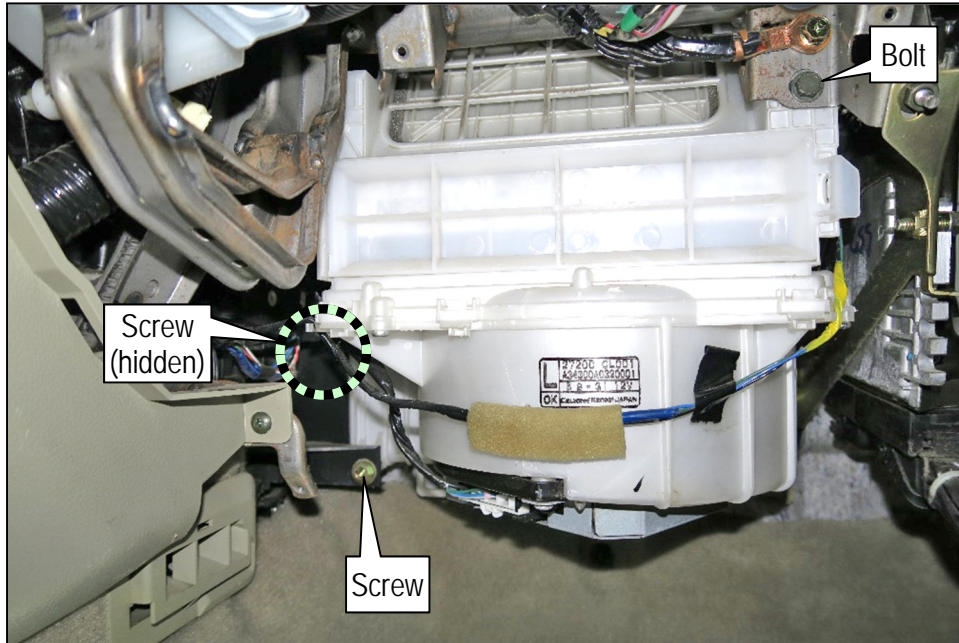

Figure 11
14. Remove the 2 screws and 1 bolt. See Figure 11.
HINT: One of the two screws is hidden (Figure 11).